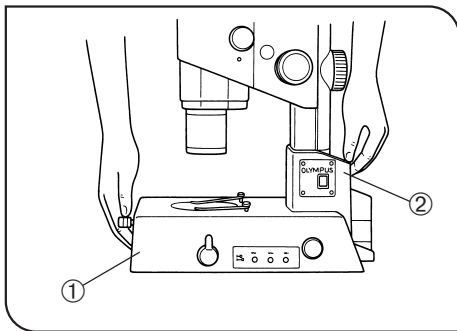

Fig. 3
4. To move the microscope body, lift it at the finger holds ① and ② on the illumination base. Do not hold the microscope body anywhere else. (Fig. 3)